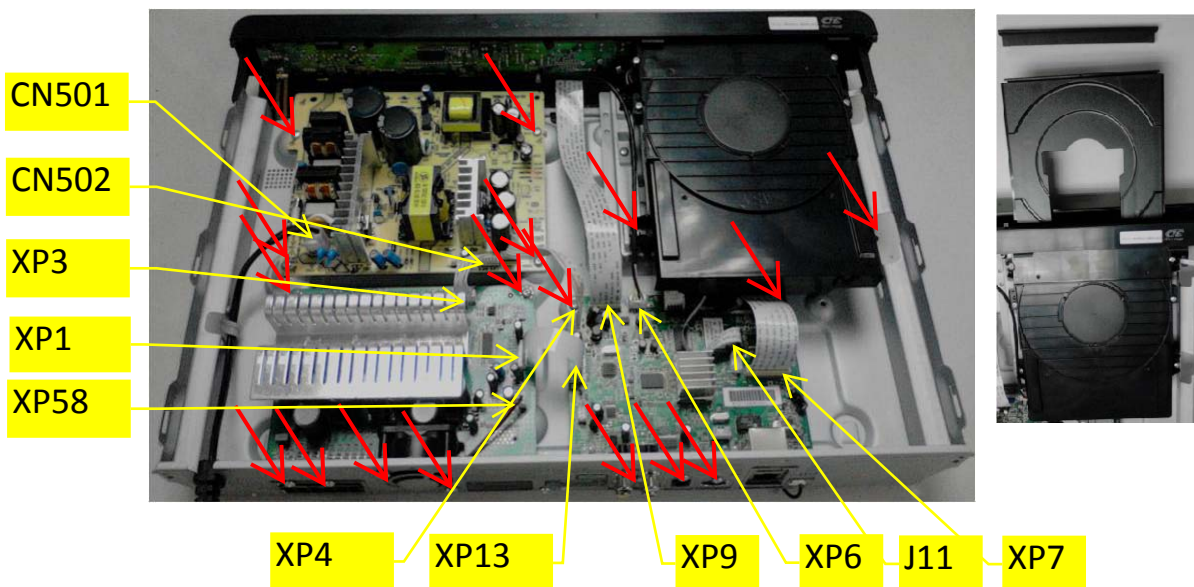

Figure 2
Step 2:Dismantle the loader.Open the tray,dismantle the CD door,disconnect connectors(J11,XP7), remove 2 screws beside the loader,then pull up the loader.(Figure 2)
Step 3:Dismantle the main board.Disconnect connectors(XP6,XP9,XP4,XP13,XP15),remove 2 screws on the main board and 3 screws on the back panel.then pull up the main board.(Figure 2)
Step 4:Dismantle the amplifier board.Disconnect connectors(XP3,XP58),remove 2 screws on the amplifier board and 4 screws on the back panel.then pull up the amplifier board.(Figure 2)
Step 4:Dismantle the power board.Remove 4 screws on the power board, then pull up the board.(Figure 2)